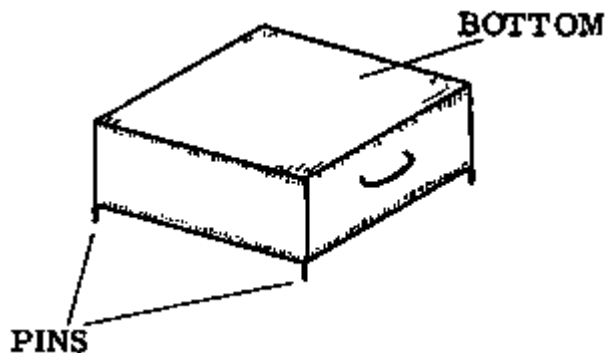

Fig. 6
- NOTE: To make it easier to empty the mould, short pins can be welded onto each corner at the top of the mould. This allows you to tap the pins gently on a hard, level surface; thus loosening the block from the mould (Fig. 6).